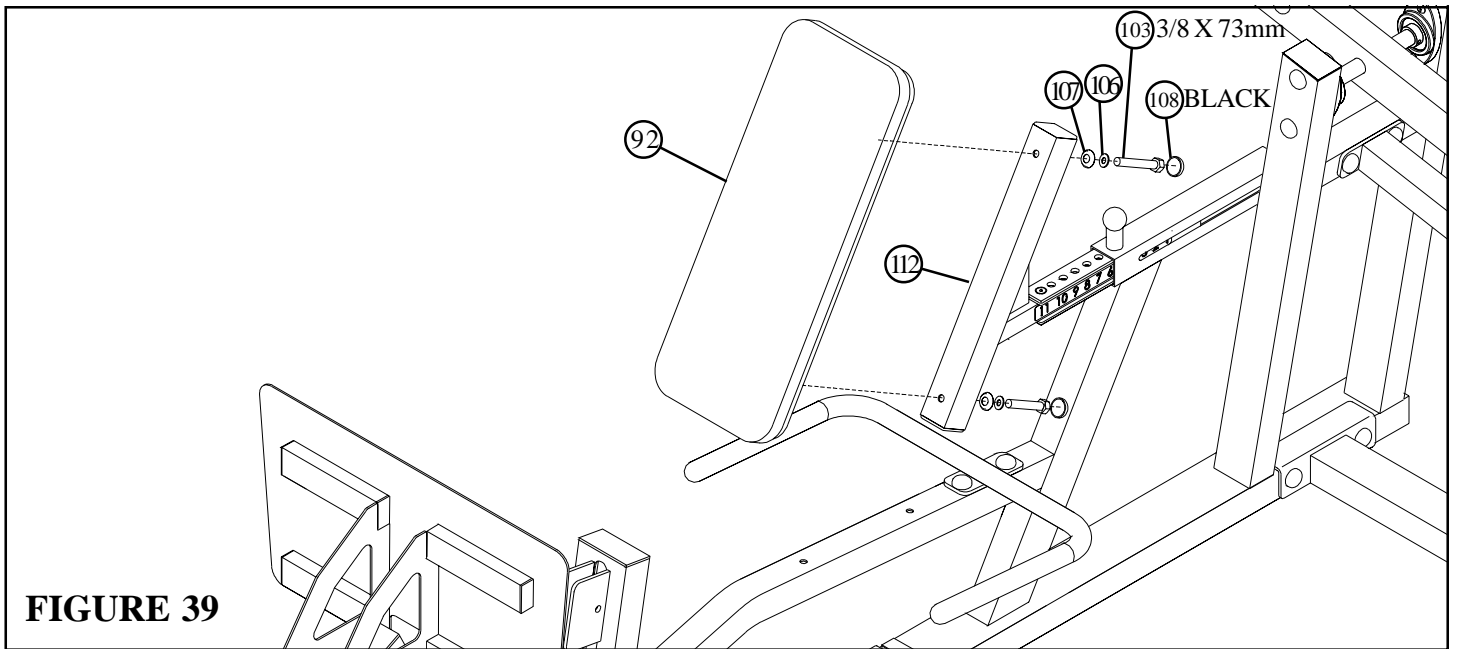

FIGURE 39
- **SECURELY** assemble the LEG PRESS BACK PAD (92) to the BACK PAD SUPPORT (112) using two BLACK RH CAPS (108), two 3/8 X 73mm BOLTS (103), two 3/8" SAE WASHERS (106) and two 3/8" RH WASHERS (107) as shown in FIGURE 39.